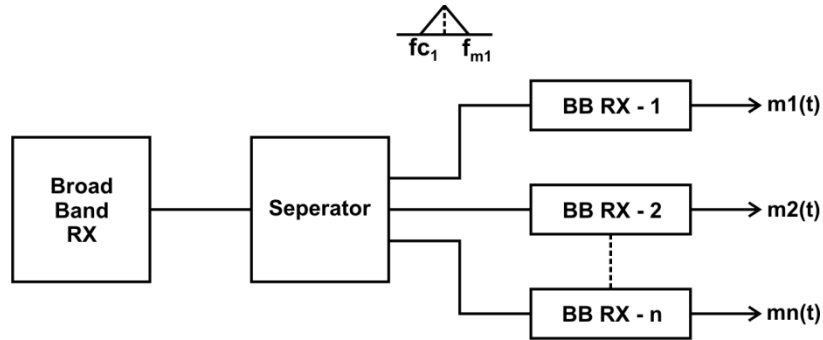

Fig. 12.3 Block diagram of FDM Rx
5. This FDM signal is transmitted by Transmitter (T_X). The block diagram of FDM Receiver (R_X) is as shown in figure 12.3.